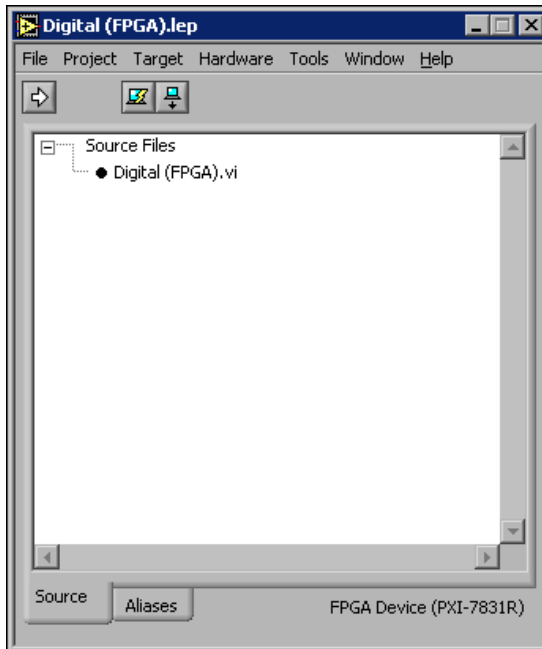

Figure 5. Embedded Project Manager Window
4. Figure 5 shows the **Embedded Project Manager** window. Notice the Digital (FPGA) VI appears in the **Source Files** list on the **Source** tab with a dot by the filename. The dot indicates the Digital (FPGA) VI is the top-level VI of the LEP file. The top-level VI runs when you click the **Run** button.